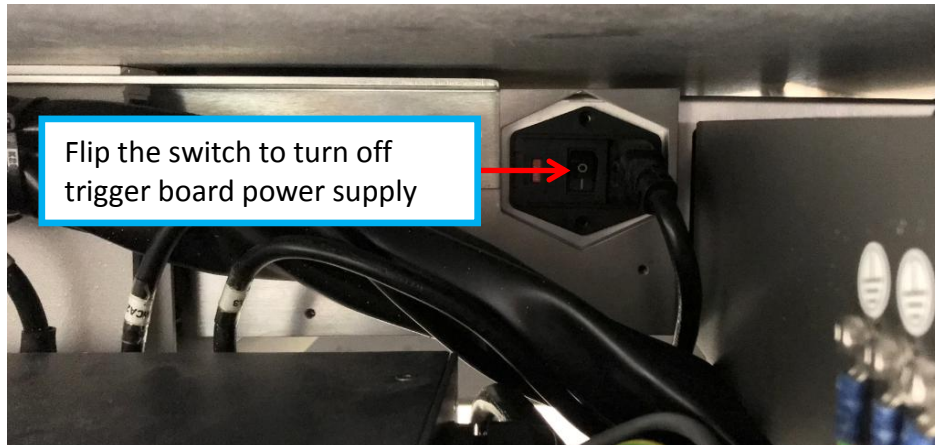

Figure 7 Tigger Board Switch
- Turn off Trigger Board Switch as below Figure 7